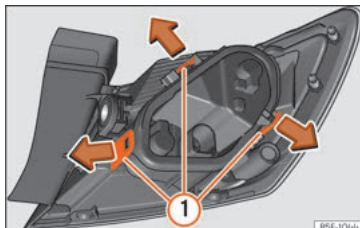

Fig. 116 Retaining tabs on reverse side of tail light.
- Remove the bulb holder » **Fig. 116** unlocking the retaining tabs **①**.